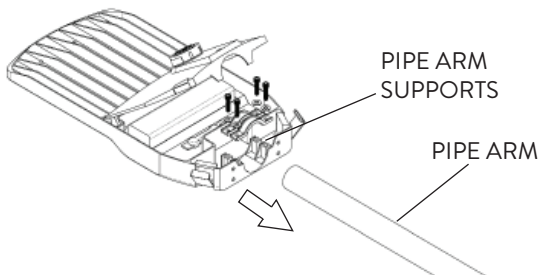

FIG. 7
- 3 Install the FSTA/2 fixture onto the Pipe Arm by setting onto the Pipe Arm Supports (Fig. 7).